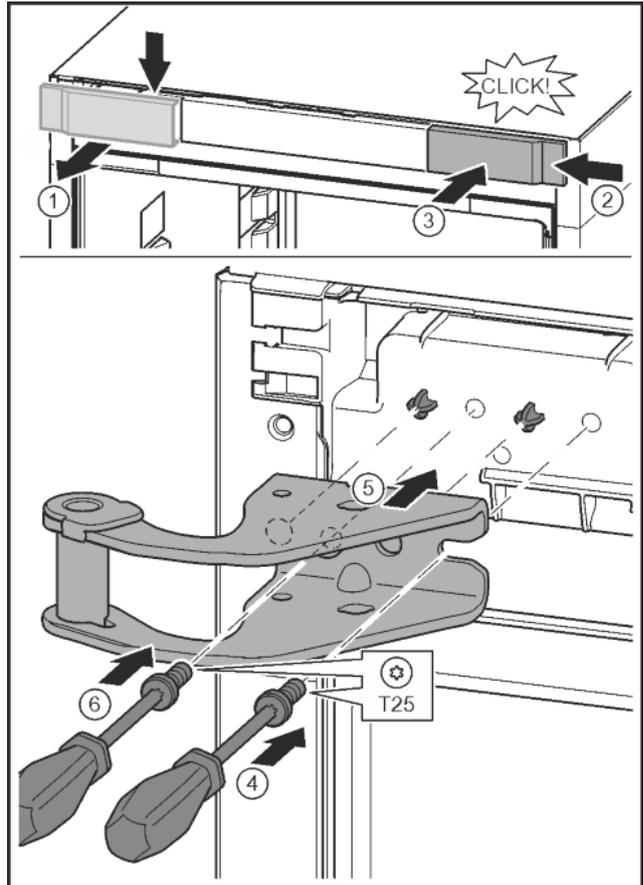

Fig. 12
- ▶ Undo the cover with a screwdriver and remove sideways. Fig. 12 (1)
- ▶ Rotate the cover 180° and clip onto the other side from the right. Fig. 12 (2)
- ▶ Click the cover into place. Fig. 12 (3)
- ▶ Position the screw with a T25 screwdriver. Fig. 12 (4)
- ▶ Position the upper bearing bracket. Fig. 12 (5)
- ▶ Tighten the screw. Fig. 12 (4)
- ▶ Insert the screw with a T25 screwdriver and tighten. Fig. 12 (6)